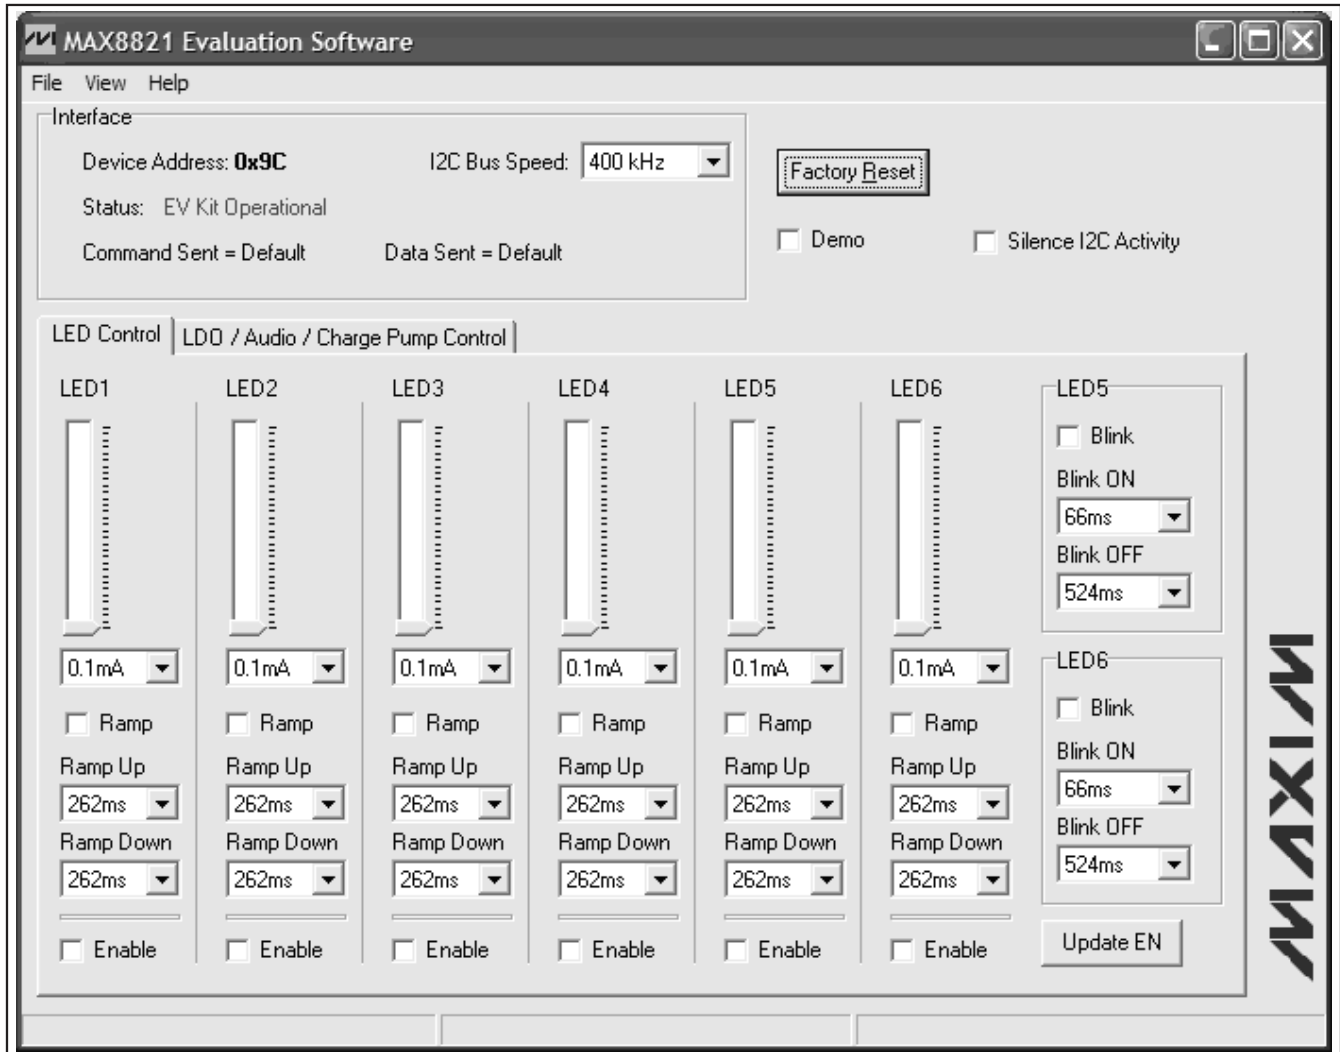

Figure 2. Status: EV Kit Operational
- 20) Normal device operation is verified when **EV Kit Operational** is displayed by the **Status** indicator as shown in Figure 2. If the status indicator displays an error, see the *Troubleshooting* section.